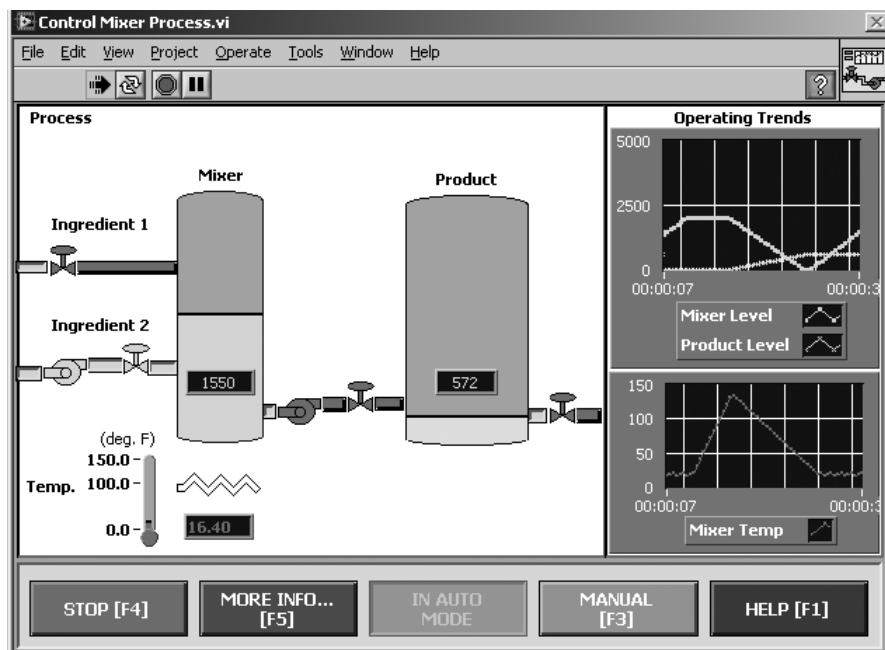

Figure 17.15
9. The front panel shown in Figure 17.15 is found in the examples of the full version of LabVIEW (`examples\apps\controlmix.llb\Control Mixer Process.vi`). This front panel uses the same Boolean controls you just created, as well as some others.